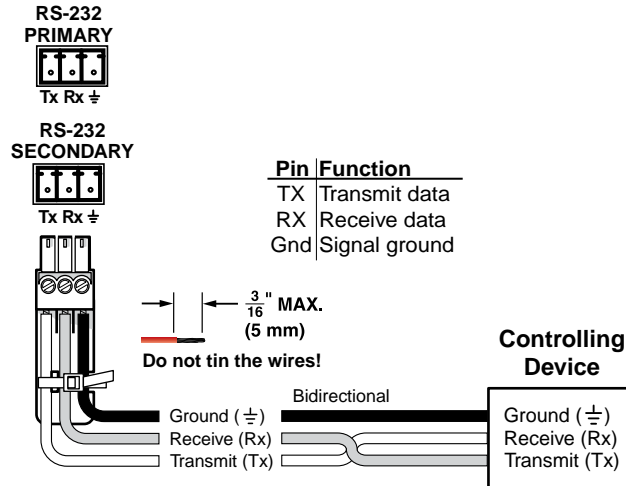

Figure 6. RS-232 connector
- ⑩ **RS-232 connectors** — Connect one or two host devices, such as computers, touch panel controls, or RS-232 capable PDAs to the switcher via these 3-pole captive screw connectors for serial RS-232 (see figure 6). Use the supplied tie-wrap to strap the serial cable to the extended tail of the connector.